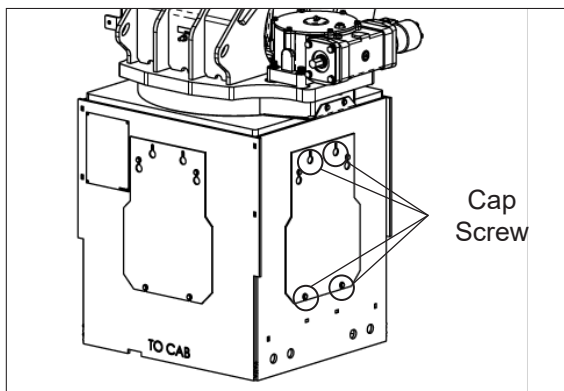

Figure 1 — Pedestal
4. Remove and retain the 4 cap screws securing the curb side pedestal cover (refer to Figure 1). Remove the cover.